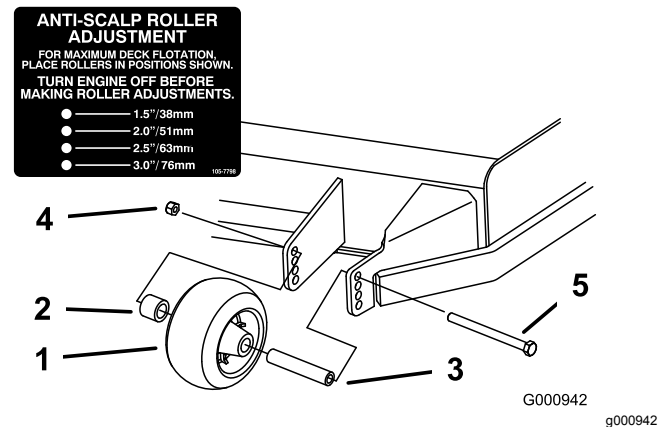
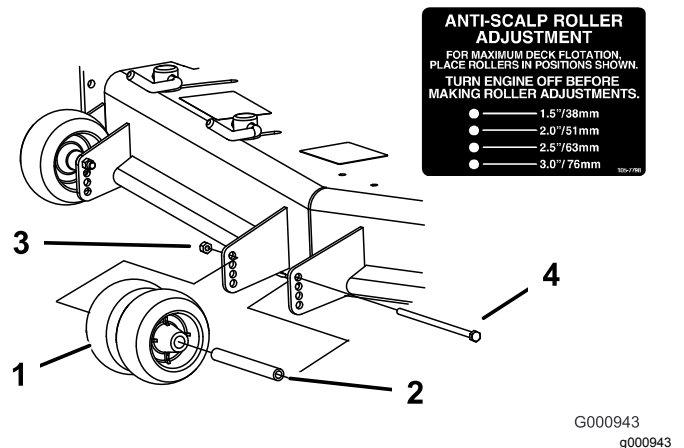

Figure 28
Figure 29
3. Adjust the anti-scalp rollers as shown in Figure 28 and Figure 29.